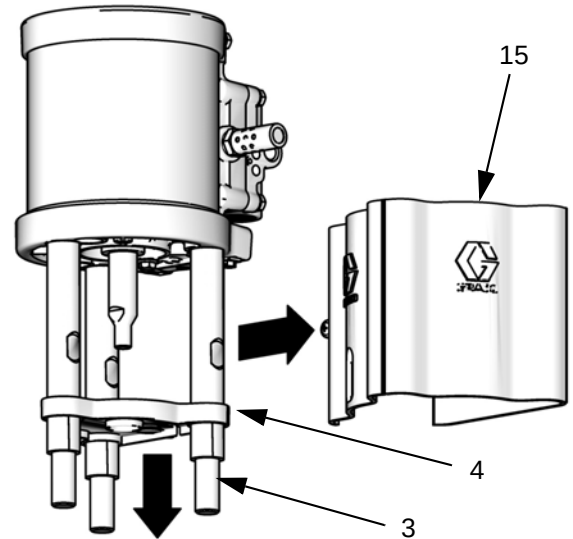

FIG. 16
3. Loosen the screw (16) and remove the tie rod shield (15). The drip shield (4) may slide down the tie rods once the rod shield is removed. (See FIG. 16.)